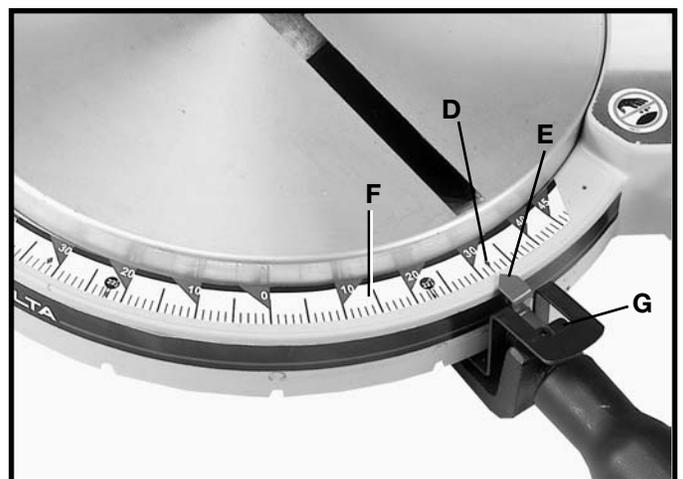

Fig. 17
In addition, a triangle indicator (D) Fig. 17, is provided on the miter scale at the 31-5/8 right and left miter positions for cutting crown moulding. Refer to the **“CUTTING CROWN MOULDING”** section of this manual.
A pointer (E) Fig. 17, is supplied which indicates the actual angle of cut. Each line on the scale (F) represents 1 degree. In effect, when the pointer is moved from one line to the next on the scale, the angle of cut is changed by 1 degree.
If it becomes necessary to adjust the pointer (E) Fig. 17, simply loosen screw (G), adjust the pointer accordingly and tighten screw (G).